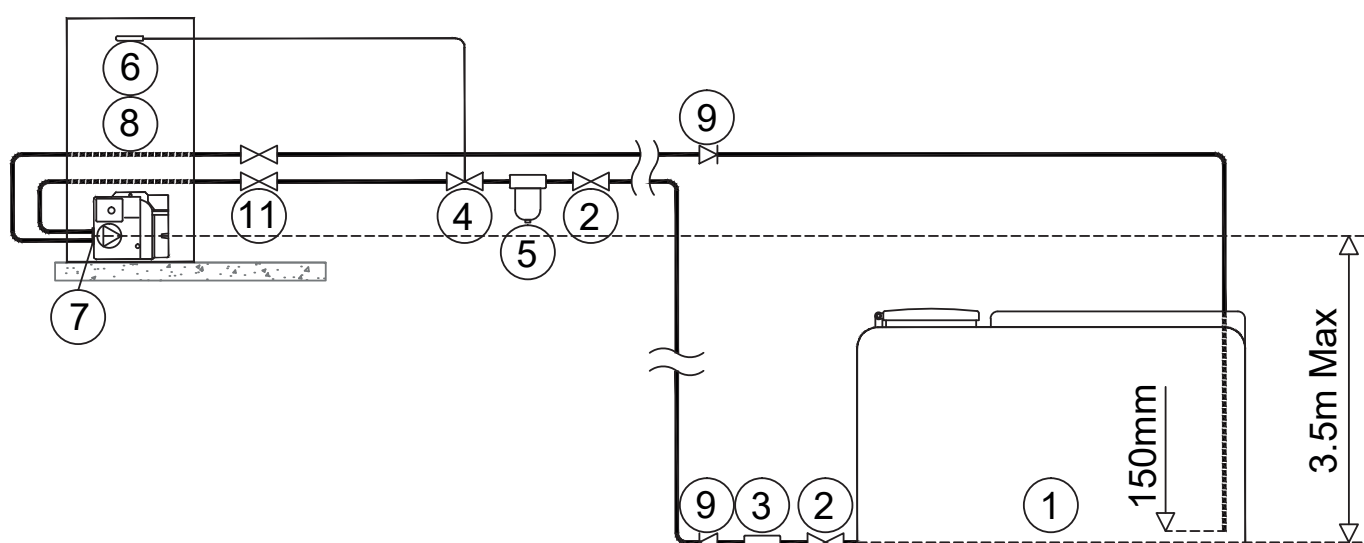

Figure 3-2: Two pipe system
3.1.4 TWO PIPE SYSTEM - (REFER TO FIGURE 3-2)